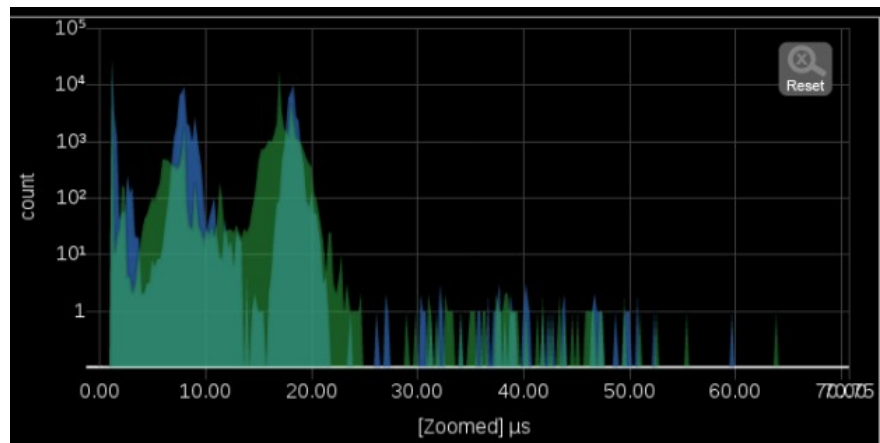

Figure 159: Zooming in on the PIT Histogram graph
- **Pinch and zoom control:** Use the pinch-out gesture on the graph to zoom in. After using the zoom in gesture, the text **Zoomed** will be displayed on the x axis of the graph. (See Figure 159.)